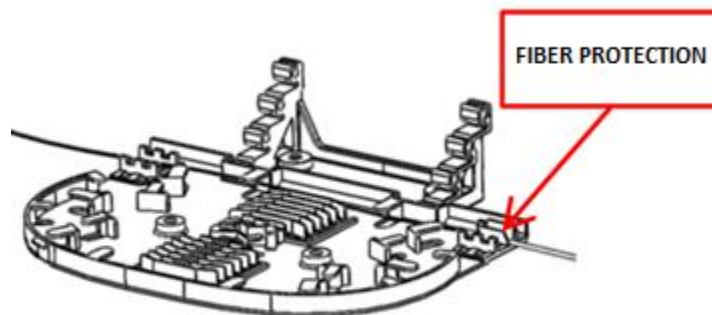

Fig. 20
3.6.7. Place the fiber unit (either tube or buffered fiber) in the location highlighted in Fig.20; and place the previously cut foam on top.